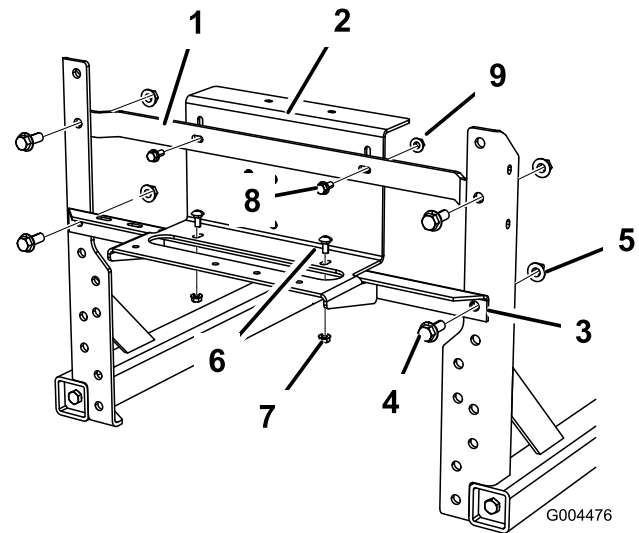

Figure 10
1. Install lower crossbar removed from the old boom uprights using existing fasteners. Install the new valve bracket support to the lower cross bar using existing carriage bolts and fasteners (Figure 10).